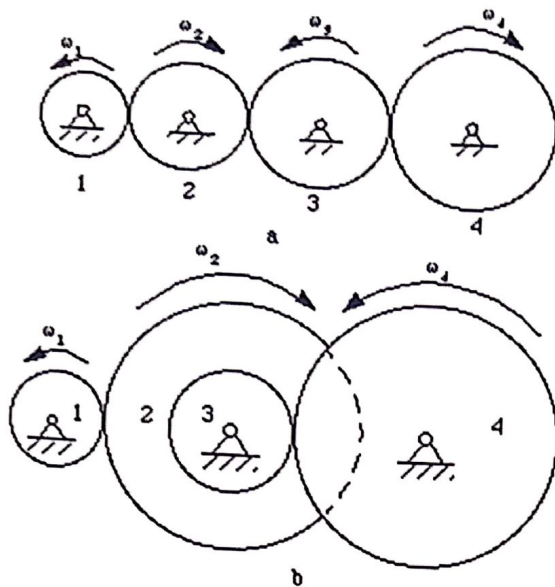

Figure 4
- (a) Referring to Figure 4, distinguish between a simple gear transmission and a compound gear transmission.
- (b) Consider the two sets of gear trains consisting of 4 gears 1, 2, 3 and 4 as shown in Figure 4. The first set is a simple gear assembly, while the second has one pair of gears in compound assembly. Let  $N_1, N_2, N_3, N_4$  be speed in rpm of gears 1, 2, 3, 4 respectively and  $T_1, T_2, T_3, T_4$  be number of teeth of the respective gears 1, 2, 3, 4.